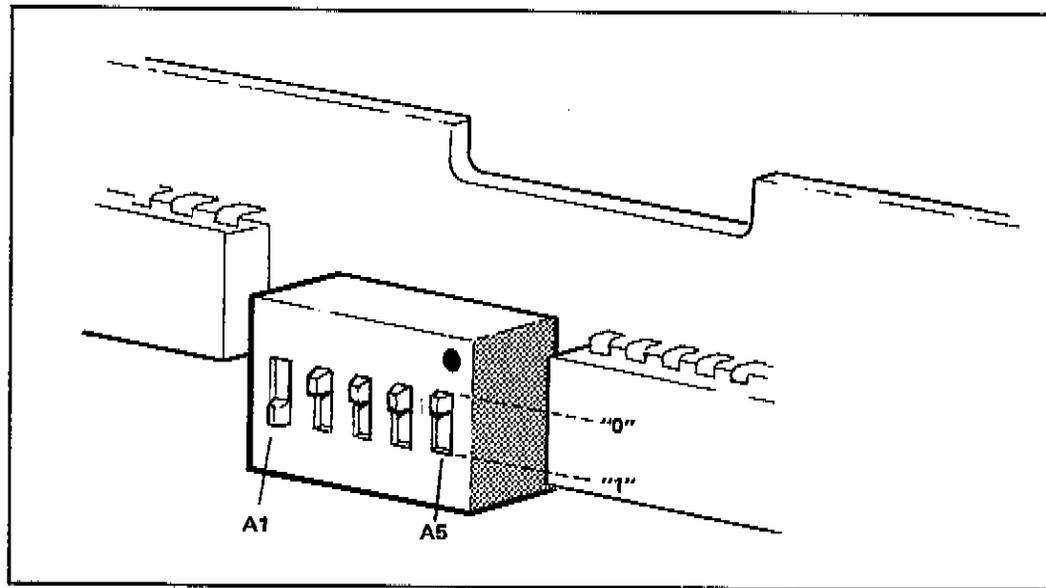

Figure 2-3 The HP-IB Address Switch shown as set by the Factory.
- Use a pencil to set the switches to the desired HP-IB listen address. The switch is illustrated in Figure 2-3. Facing the board, the left hand switch is the LEAST significant address bit (A5 in Table 2-1). Setting a switch "up" towards the black dot on the switch body places it in its "0" position.